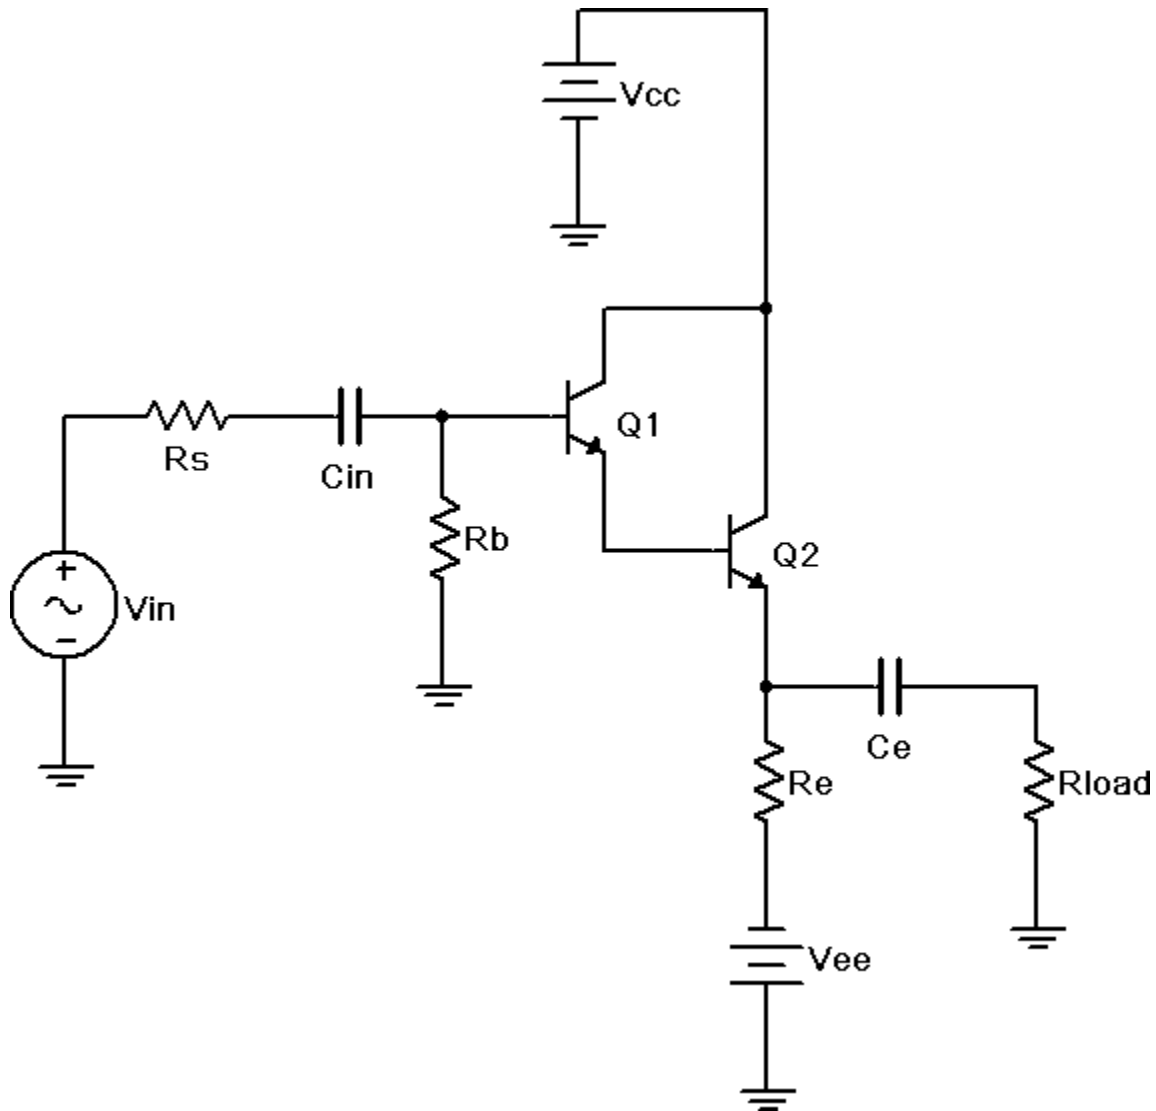

Figure 1
1. Consider the circuit of Figure 1 using $V_{cc} = 5$ volts, $V_{ee} = -12$ volts, $R_s = 22\text{ k}\Omega$, $R_b = 470\text{ k}\Omega$, $R_e = 1\text{ k}\Omega$, $R_{load} = 220\text{ }\Omega$, $C_{in} = 10\text{ }\mu\text{F}$ and $C_e = 470\text{ }\mu\text{F}$. Using the approximation of a negligible DC base voltage, determine the DC collector current and r'_e , and record these in Table 1. Using the r'_e , calculate the expected Z_{in} , $Z_{in}(\text{base})$, Z_{out} and A_v . Record these in Table 2. If a transistor curve tracer or beta checker is not available to get an approximate value of beta for the transistors, estimate the pair at 10,000.
2. Build the circuit of Figure 1 using $V_{cc} = 5$ volts, $V_{ee} = -12$ volts, $R_s = 22\text{ k}\Omega$, $R_b = 470\text{ k}\Omega$, $R_e = 1\text{ k}\Omega$, $R_{load} = 220\text{ }\Omega$, $C_{in} = 10\text{ }\mu\text{F}$ and $C_e = 470\text{ }\mu\text{F}$. Disconnect the signal source and check the DC transistor voltages to ensure that the circuit is biased correctly. (Note: The base should be close to zero while the emitter will be two V_{BE} drops less, or about -1.4 VDC .)